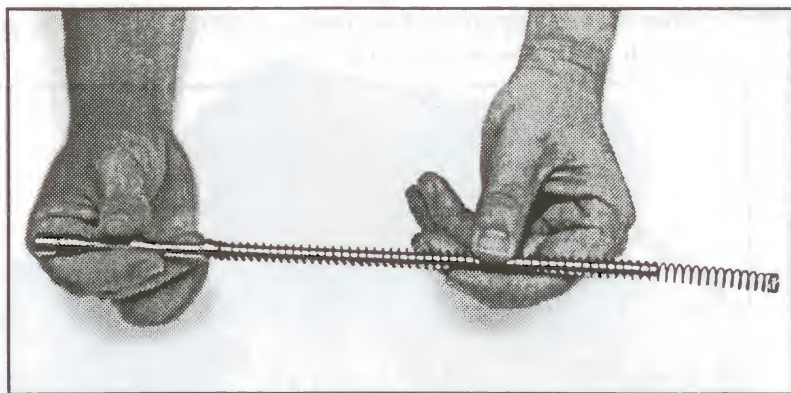

Fig. 19
Separate the piston spring from the piston rod (fig 19).
- Replace the piston spring on the piston rod (fig. 19).